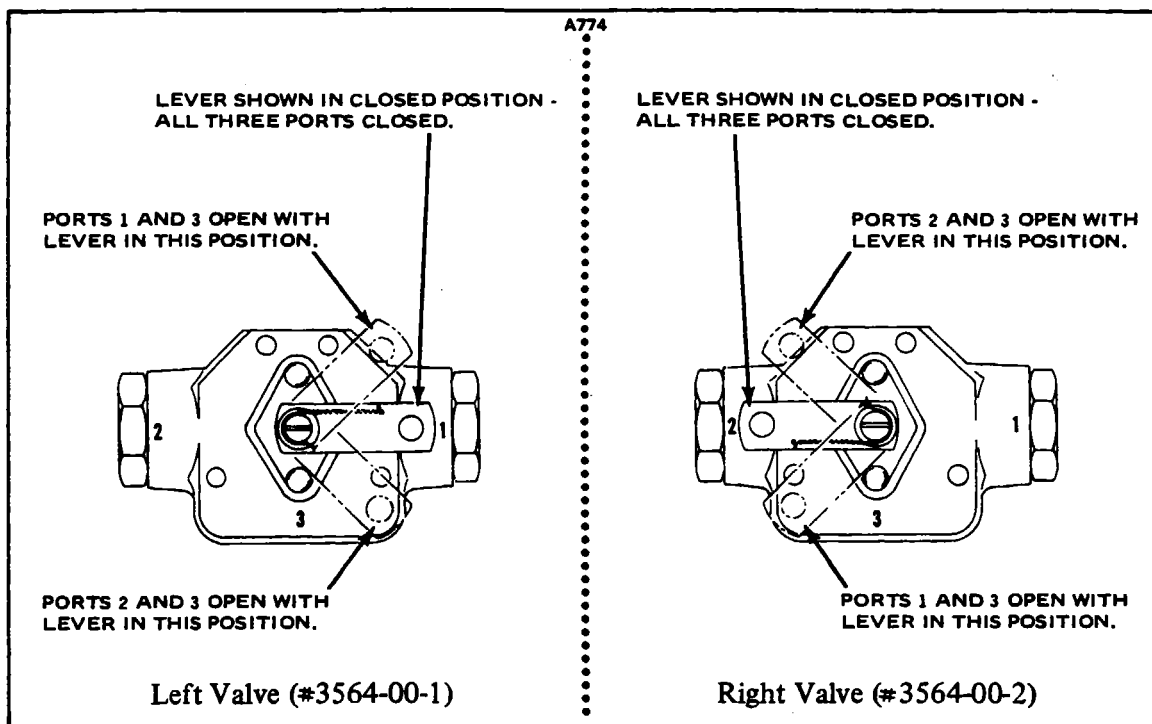

Figure 9-18. Fuel Selector Valve Port Positions
9-39. INSPECTION AND LEAK TEST OF FUEL SELECTOR VALVE. (Refer to Figure 9-18.)
3. Move the selector lever to the opposite stop position; use a pipe cleaner to observe that the center and opposite (from step 2) port are open. All lever and port positions must agree with Figure 9-18.
4. If the valve assembly fails any of these steps, remove lever safety wire, screw and washer. Reposition selector lever until all port and lever positions correspond with above inspection as noted in Figure 9-18.